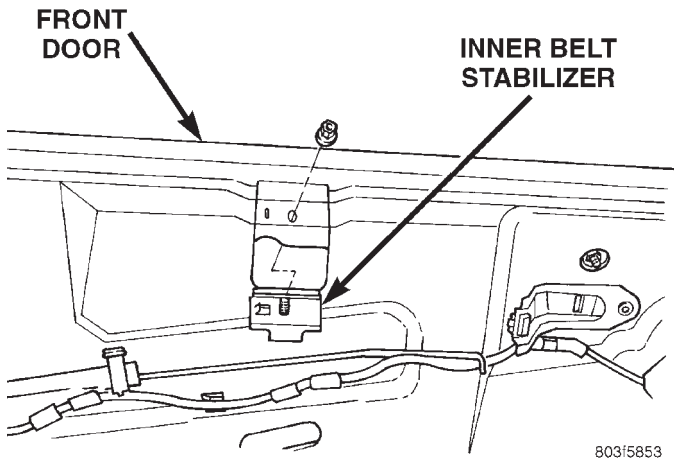
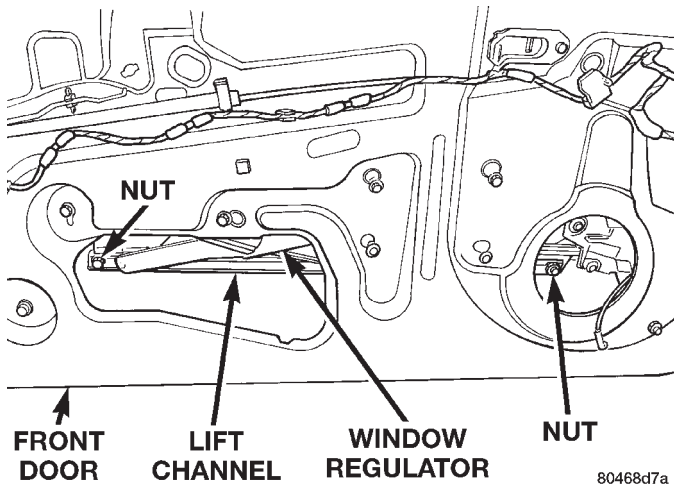

Fig. 13 Inner Belt Stabilizer
Fig. 14 Regulator Lift Channel
- (1) Remove door trim panel and watershield.
- (2) Remove inner door belt weatherstrip.
- (3) Loosen inner belt stabilizer (Fig. 13).
- (4) Remove door speaker, if so equipped.
- (5) Lower door glass to access glass attachment bolts.
- (6) Remove bolts holding regulator lift channel to door glass (Fig. 14).